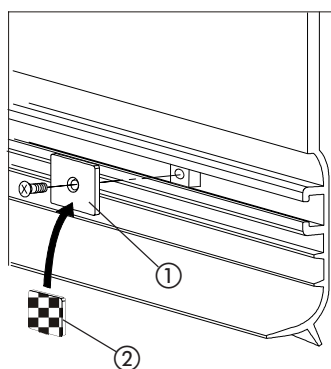

fig. 79
Position the metal securing plates (fig. 79 ref. ①) on the housing in line with the brackets, using the three plates fitted previously (fig. 76 refs. B and C) and the supplied screws. Only if using the standard housing securing accessories, apply Velcro on the metal plates (fig. 79 ref. ②).